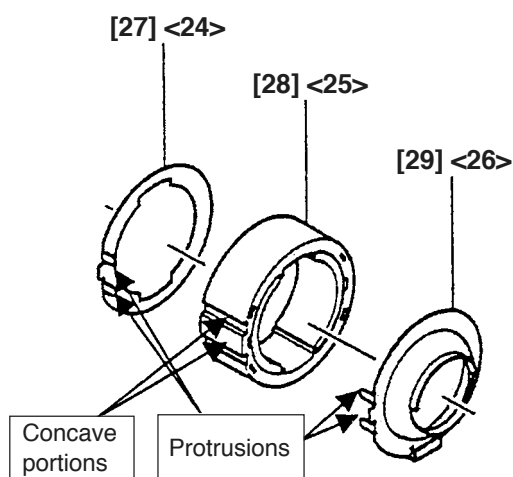
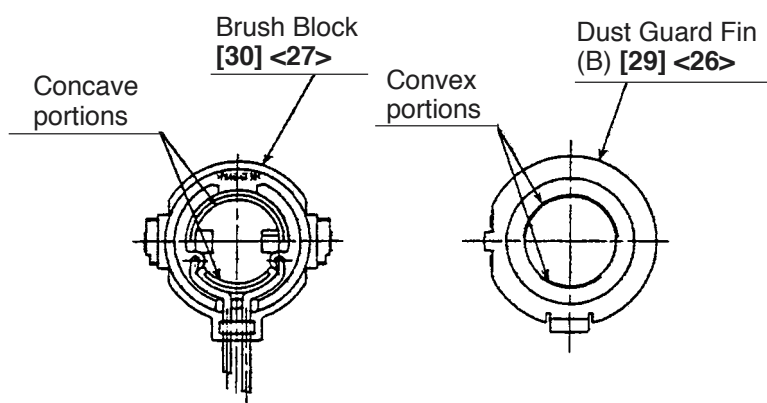

Fig. 15
Fig. 16
- Adjust the protrusions of Dust Guard Fin (B) [29] <26> to the concave portions of Magnet (E) [28] <25> and also adjust the outside diameter of Dust Guard Fin (B) [29] <26> to the outside diameter of Magnet (E) [28] <25> when mounting Dust Guard Fin (B) [29] <26> to Magnet (E) [28] <25> (see Fig. 15).
- Adjust the protrusions of the Side Yoke [27] <24> to the concave portions of Magnet (E) [28] <25> and also adjust the outside diameter of the Side Yoke [27] <24> to the outside diameter of Magnet (E) [28] <25> when mounting the Side Yoke [27] <24> to Magnet (E) [28] <25> (see Fig. 15).
- Insert the two Dampers [24] <21> so that they fit into Inner Cover (A) [25] <22>. Fit the locking rib of Ring Gear (C) [21] <18> to the concave portion of Damper [24] <21>. Press-fit the Armature Ass'y DC 12V [26] <23> into Inner Cover (A) [25] <22>.
- Adjust the convex portion of Dust Guard Fin (B) [29] <26> to the concave portion of the Brush Block [30] <27> (see Fig. 16).
- Adjust the concave portions (for locking) of Magnet (E) [28] <25> to the protrusions of housing (A) (see Figs. 15 and 17).